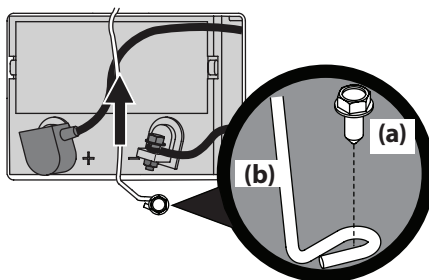

Figure 4-8
2. Locate the drive control lever stop adjustment bolts (a) on the front of the seat frame. See Figure 4-8.
1. Remove the hex washer screw (a) securing the battery hold-down bracket (b) to the frame. Then flip the battery hold-down bracket (b) up to free the battery. See Figure 4-8.